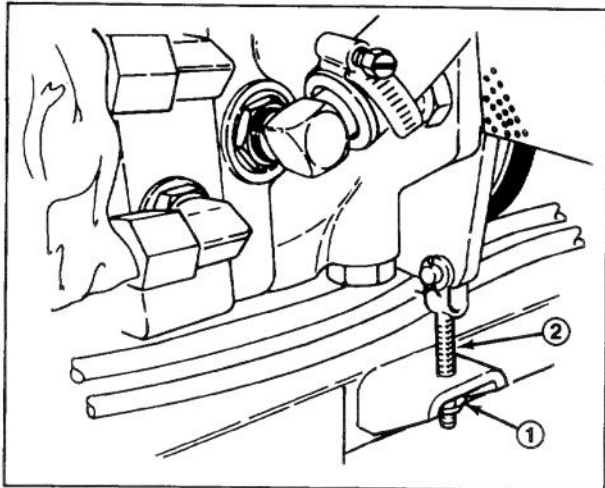

Figure 40
- A. Tighten nut on adjustment rod (Fig. 40) until desired belt tension is attained.